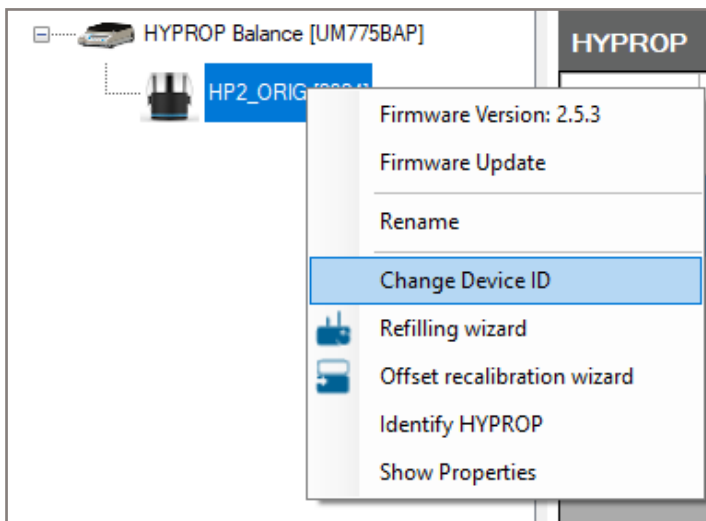

Figure 78 Change Device ID
4. Select **Change Device ID** (Figure 78).
There is also the opportunity to change a device name. To do so, select the option **Rename** in the dropdown menu (Figure 78).